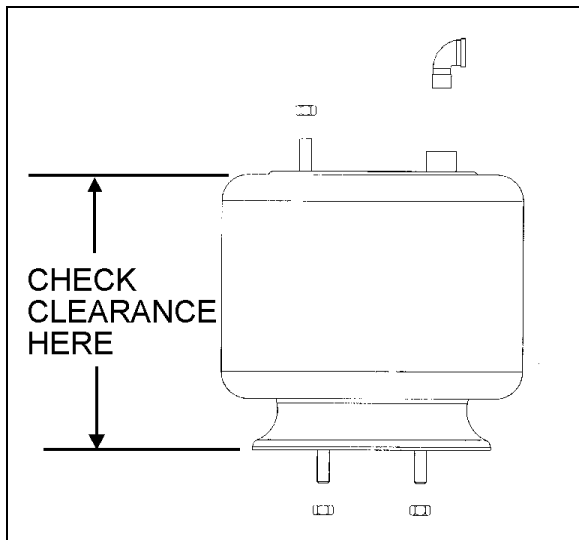

FIGURE 51: TYPICAL AIR SPRING CLEARANCE 16058
The appropriate vehicle body height is obtained by measuring the clearance of all the air springs installed on the vehicle. With the vehicle at normal operating air pressure, check the air spring clearance as illustrated in figure 51. This clearance should be:
*The measurement should be taken from underneath the upper air spring support on subframe to top of the lower air spring support on axle (refer to figure 51 for more details). If adjustment is required, begin with the drive axle.*